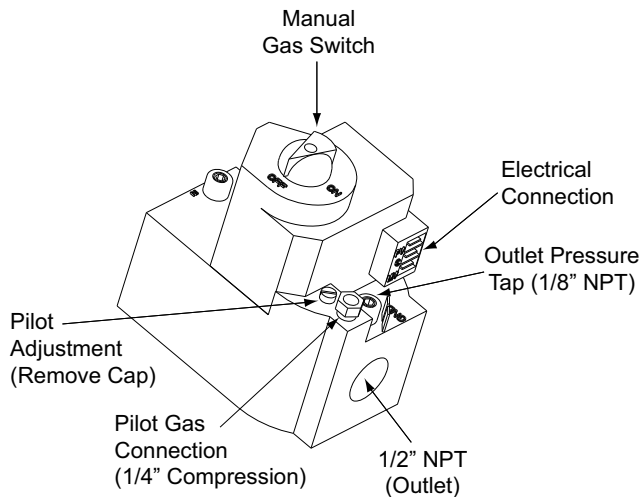

Figure 14: Single Stage Gas Valve Front
Small adjustments to the gas flow may be made by turning the pressure regulator adjusting screw on the automatic gas valve. Refer to Figures 14 and 15.
1. Remove the cap from the valve body. See Figures 14 and 15 for location.